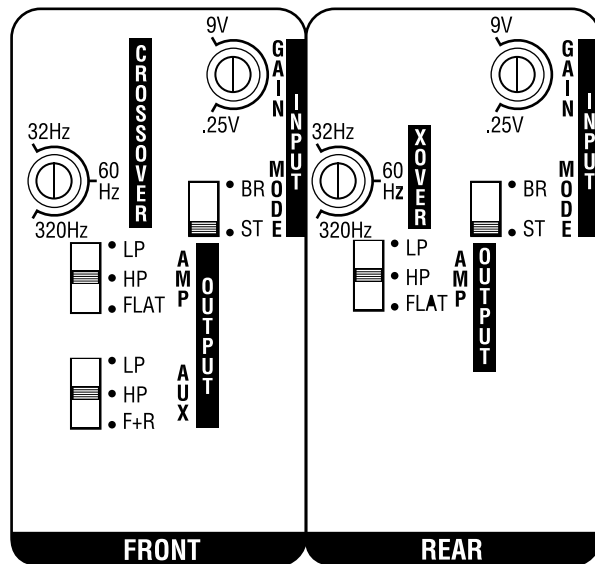

Figure 8. Kappa 54a front and rear controls for crossover, input, and output.
**IMPORTANT: If you plan to use the Kappa 54a to drive full-range speakers, set both AMP and AUX filters to FLAT (refer to Figure 1 on page 3 and Figure 8 below) and skip to the next section, "Setting Input Sensitivity".**
1. Set the front and rear CROSSOVER controls to the frequency recommended by the speaker manufacturer (refer to Figure 8). If the value is unknown, set the control midway.
2. Depending on your system plan, set the AMP and AUX switches to LP (low-pass), HP (high-pass), or FLAT (refer to Figure 8).
Initially, turn the front and rear input sensitivity GAIN controls to their minimum (counter-clockwise) positions (refer to Figure 8).